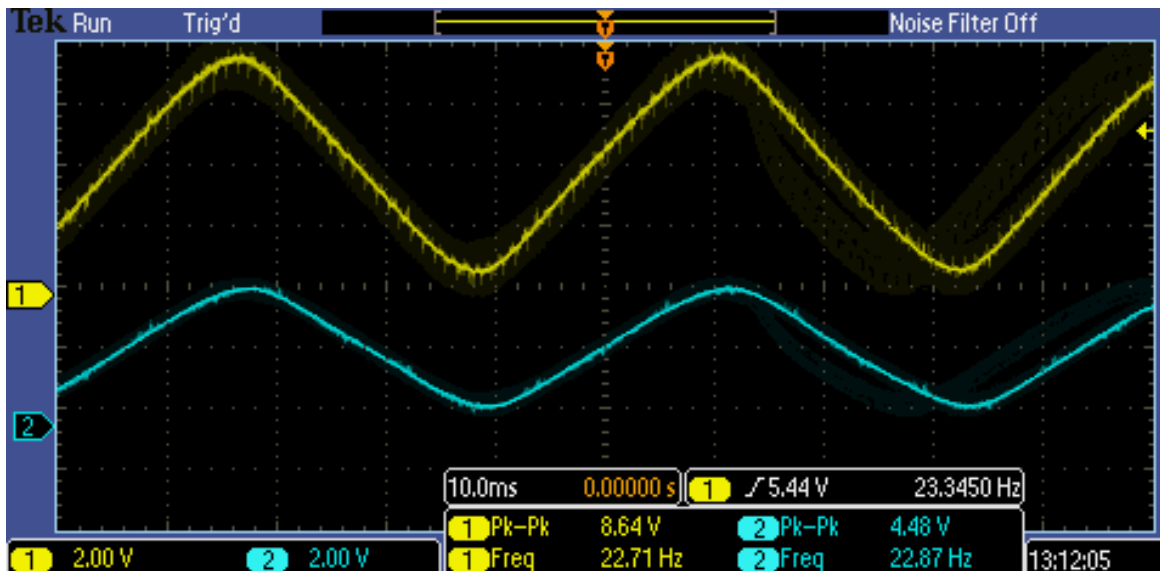

Figure 14 Stage 1 and Stage 2 Waveforms Properly Adjusted.
18. Adjust R1 "Drive Tune POT." until amplifier stage 1 is as clean and noise free as can be adjusted as shown in Figure 14. Both signals are required to be in phase with each other. Adjust R9 "Amplifier Stage 2 Amplitude Adjust" if signals are out of phase.